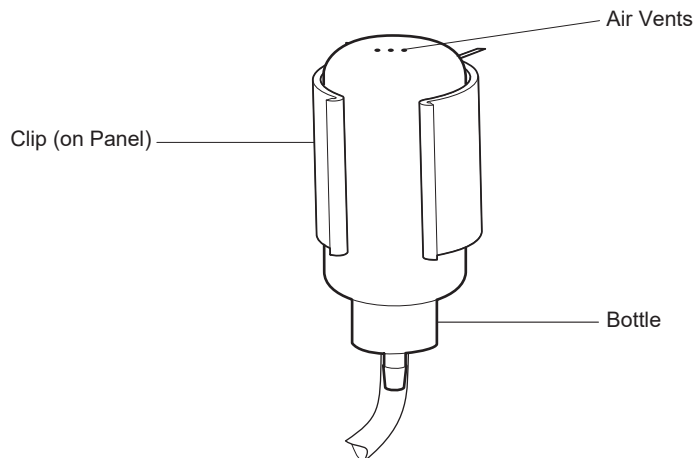

Figure 2.14 Reference Mounting Clip
8. Invert the electrolyte bottle and snap it into the clip. Refer to Figure 2.14. Use the pushpin supplied with the reference electrode to puncture three air vents on the bottom of the filling solution bottle.